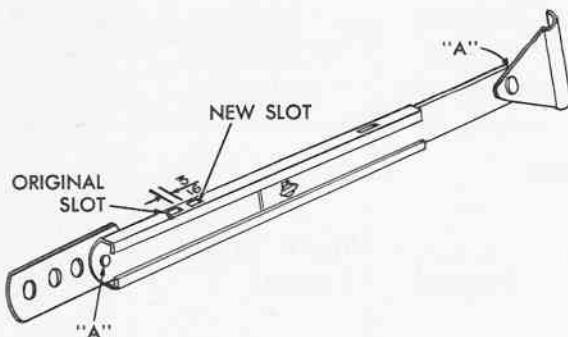

Fig. 7 Right Lift Gate Support - 1955
3. At a distance 3/16" above the original slot in the support used for locking the lift gate in the open (horizontal) position, make an additional slot of the same size. See Fig. 7. The use of this new slot in the right lift gate support when locking the lift gate in the horizontal position will eliminate any looseness between the inner and outer channels of the supports. Slot can be made as follows: